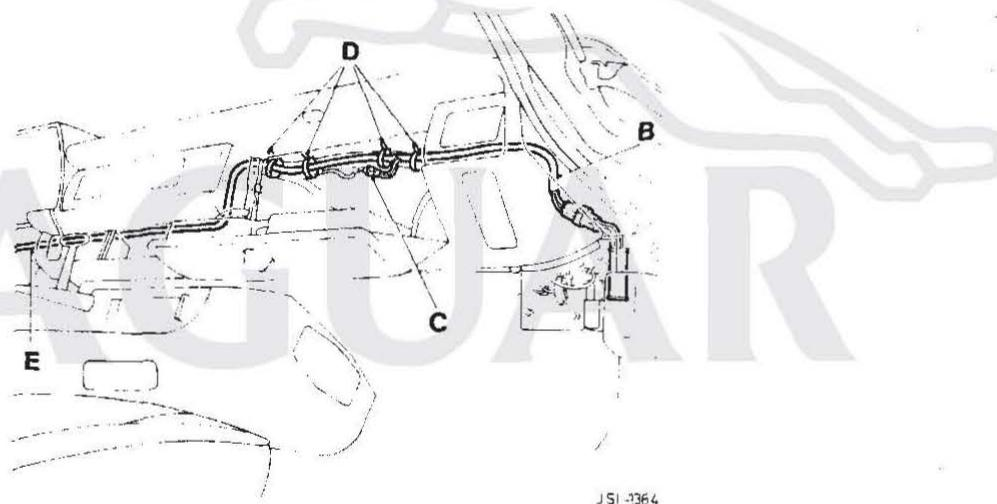

FIG 2
Route the link harness up and behind the facia side outlet ducting, see Fig 2 (B).
Disconnect the in-car sensor multiplug Fig 2 (C) and connect the harness spur on the new link harness to the vehicle harness sensor multiplug. Using suitable insulation tape, tape back the in-car sensor multiplug.
Following the existing vehicle harness routing, secure the link harness as shown in Fig 2 (D), using the ratchet straps provided.
Using a suitable length of wire (e.g. welding rod), carefully feed the wire behind the facia switch packs, attach the new link harness to the wire and draw the harness through and behind the switch panel into the driver's footwell, see Fig 2 (E). Remove the draw wire from the link harness.